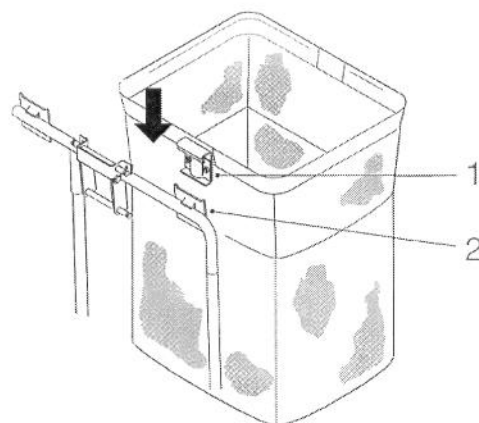

Figure 22
4. Slide the bag frame hook onto the retaining bracket (Fig. 22).